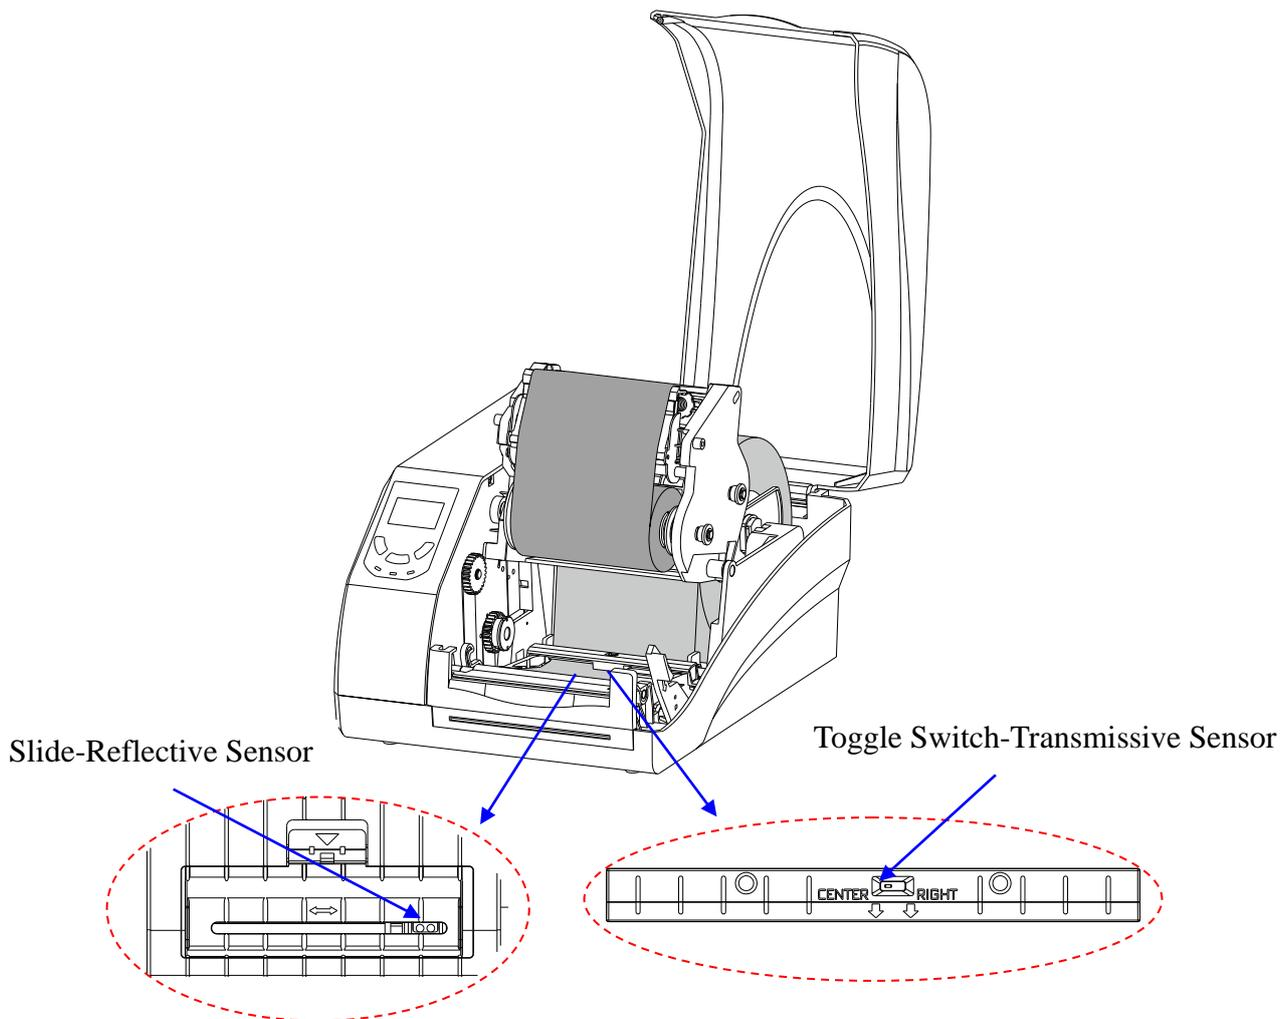

Figure 2-14 Adjust the Media Sensor Position
4. To adjust the position of the Transmissive Sensor: Flip the Toggle Switch to choose center or right position according to the media type, see Figure 2-14.